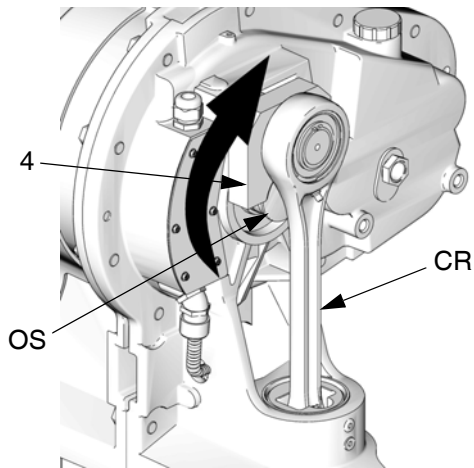

FIG. 18. Rotate Crank Arm
10. See FIG. 18. Rotate the crank arm (4) to allow it to be removed from the output shaft (OS).
11. Pull the crank arm/connecting rod/slider piston assembly (CR) up and out of the cylinder.
12. Remove the old bearings (8).